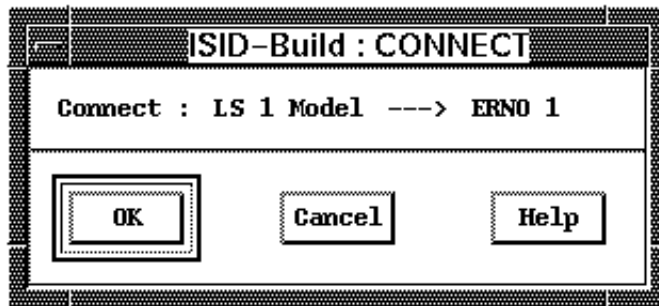

Figure 2.18 The “CONNECT” window allows you to make new connections.
- The “CONNECT” window in Figure 2.18 pops up.